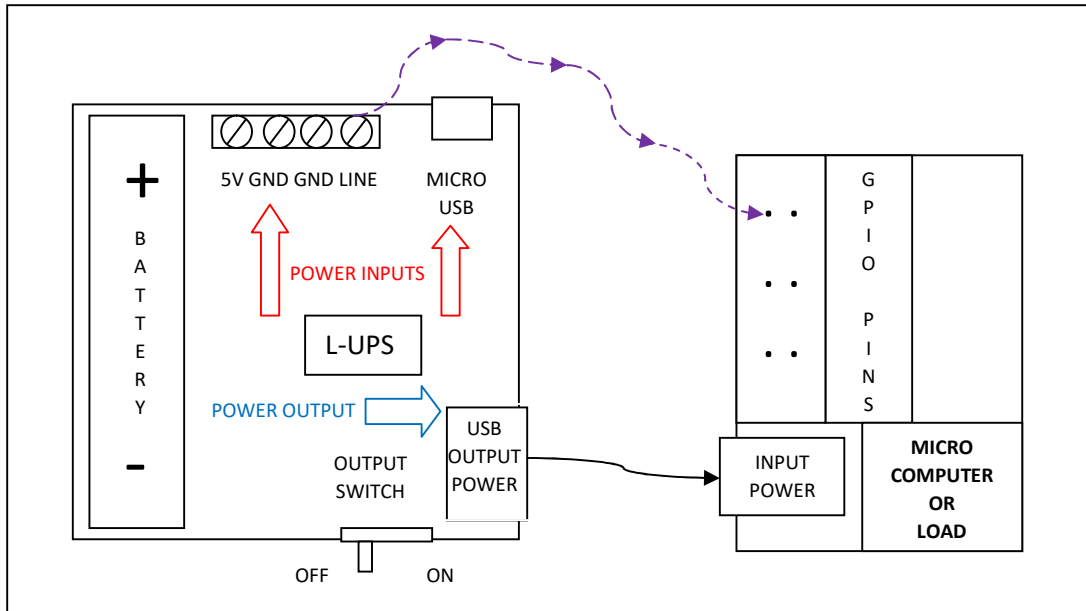

Figure 2. Output Power Connections (Connecting L-UPS to a Load)
- 3) Please use a short (max 1 ft or 30mm) USB power cable to connect from the USB output power connector of the L-UPS to the input power connector of the load as shown in figure 2.